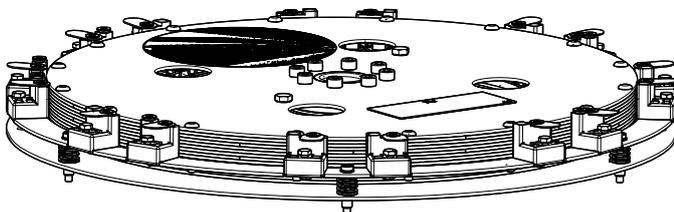

Fig. 59 Operator with adapter
2. Place the operator in the adapter (Fig. 59).